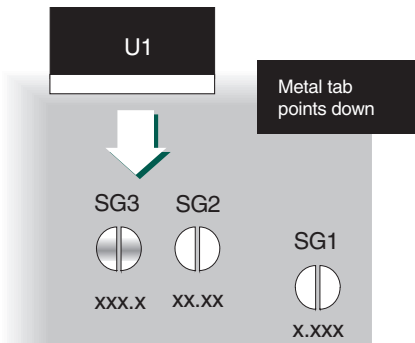

Figure 2. Installing U1
- 3. Battery Operation:** Do not use this feature with blue LED meters. Open SG4 and install U1 (LM7805CT) with its metal tab facing down as shown Figure 2. Allowable input power ranges (J1, pins 5 and 6) are as follows: